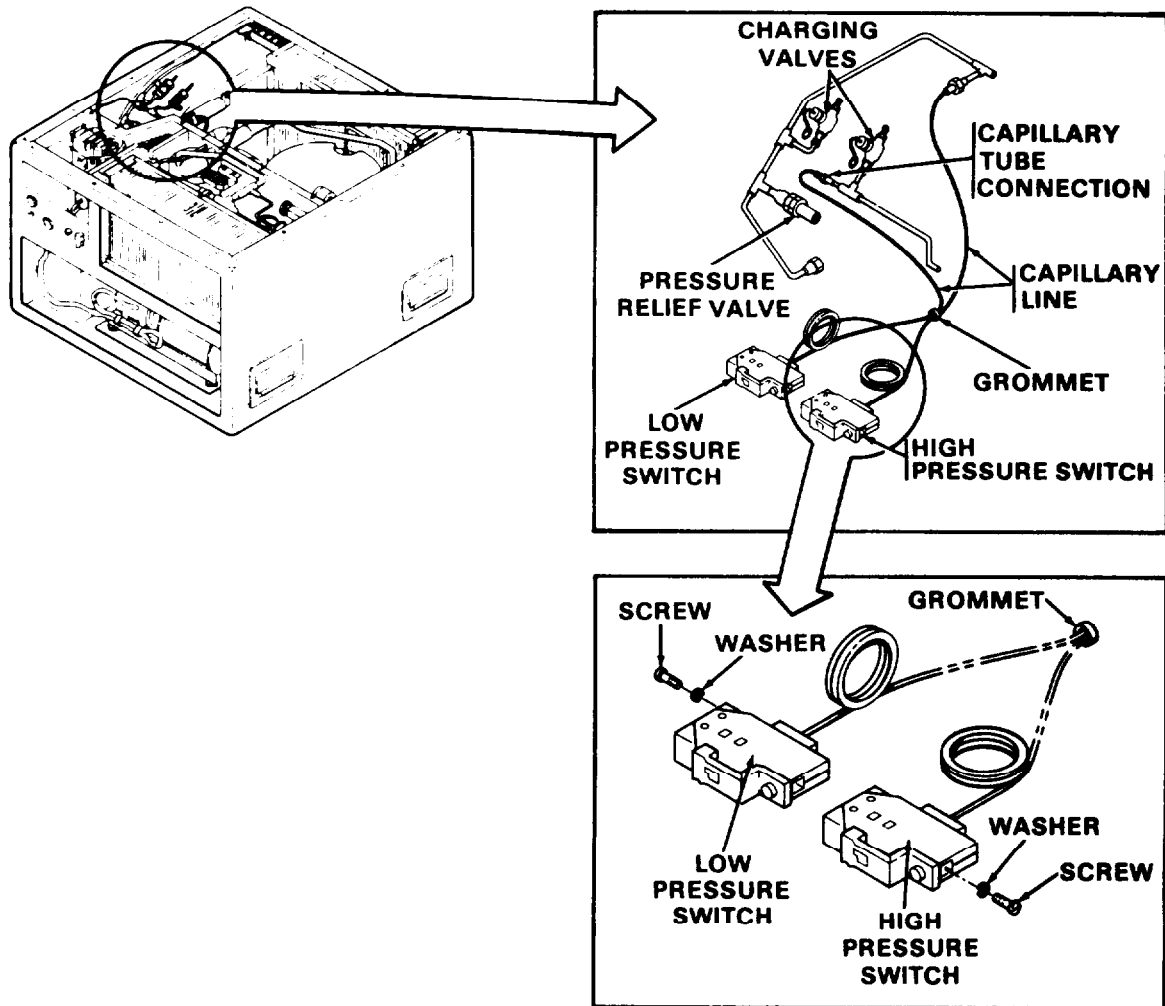

Figure 5-2. High Pressure Cut-Out and Low Pressure Cut-Out Switches
- (4) Refer to paragraph 4-29 and remove Junction Box.
- (5) Refer to figure 5-2 and disconnect the pressure cutout switch electrical leads.
- (6) Remove pressure cutout switch mounting screws.
- (7) Disconnect pressure cutout switch flare nut from the refrigerant line tee.
- (8) Remove the capillary tube grommet in the back wall, extract the capillary tube and flare nut through the opening.
- (1) Refer to figure 5-2 and install capillary tube and grommet.
- (2) Mount pressure cutout switch to Housing.
- (3) Attach pressure cutout switch and charging valve flare nuts to refrigeration lines.
- (4) Refer to paragraph 6-3 and leak test the refrigeration system.
- (5) Refer to wiring diagram (FO-1) and attach electrical leads to pressure cutout switch. Attach service valve flare nuts.
- (6) Refer to paragraph 6-3 and purge the refrigeration system.
- (7) Refer to paragraph 4-29 and install Junction Box.